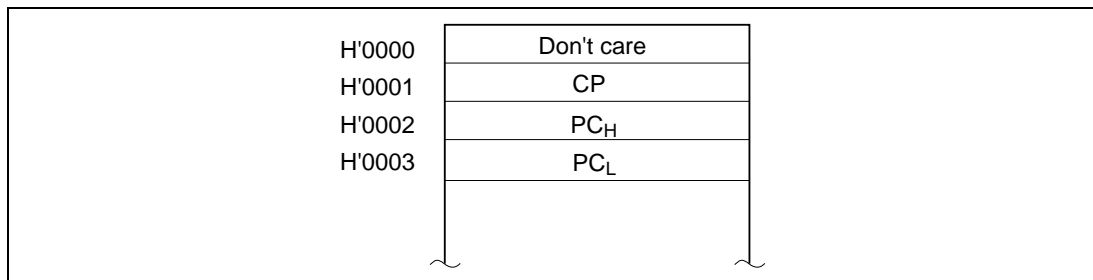

Figure 4-6 Reset Vector in Maximum Mode
(2) Maximum Mode: Figure 4-6 shows the reset vector in maximum mode.